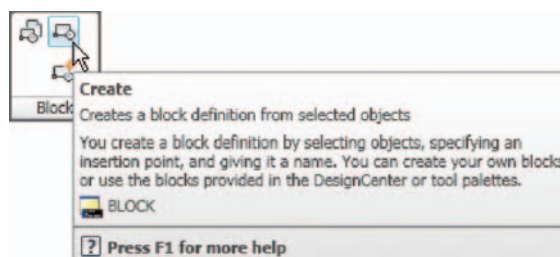
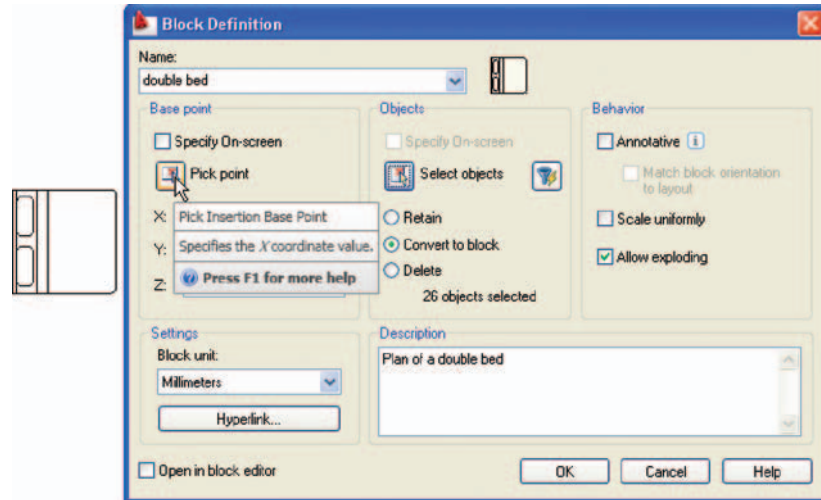

Fig. 9.2 Click **Create** tool icon in the **Home/Block** panel
Fig. 9.3 The **Block Definition** dialog with entries for the **double bed**
First example – Blocks (Fig. 9.3)
2. *Left-click* the **Create** tool icon in the **Home/Block** panel (Fig. 9.2). The **Block Definition** dialog (Fig. 9.3) appears. To make a block from the **Double bed** symbol drawing: